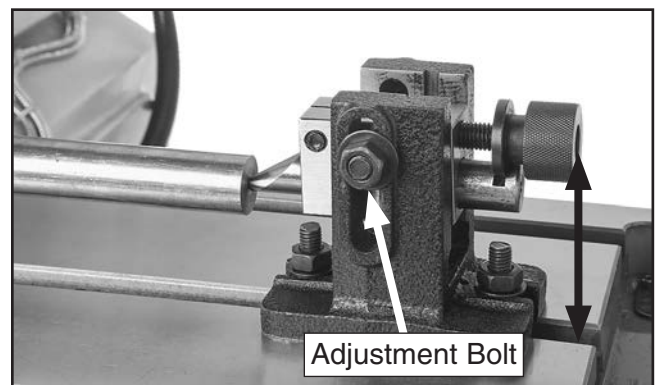

Figure 25. Vertical tailstock adjustment.
2. Make your adjustments by slightly loosening adjustment bolt and raising or lowering tailstock dead center in appropriate direction (see **Figure 25**).